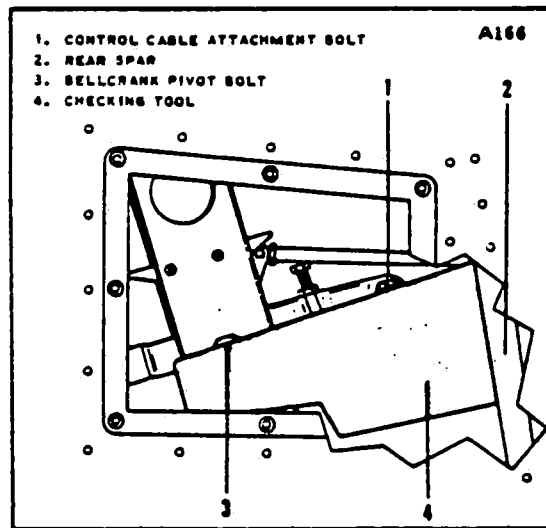

Figure 5-3. Installation of Bellcrank Checking Tool
3. Check bellcranks for neutral position by aligning bellcrank pivot bolt with rear cable attachment bolt using fabricated checking tool as shown in Figure 5-3. (This tool may be fabricated from dimensions given in Figure 5-17.)